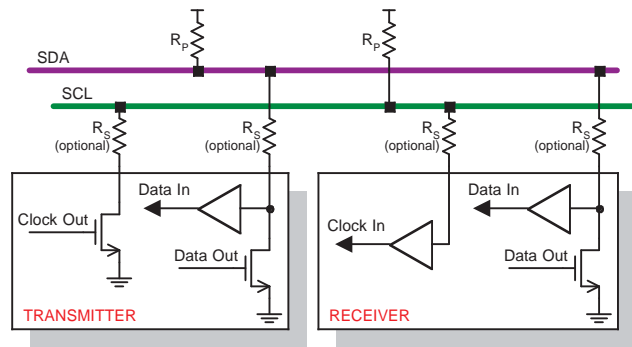

Figure 24: Connections to the Serial Bus
Connection of devices to a standard-mode implementation of the I2C-bus is similar to that shown in Figure 24. Selection of the pull-up resistors (RP) and the optional series resistors (RS) on the SDA and SCL lines depends on the supply voltage, the bus capacitance and the number of connected devices with their associated input currents.